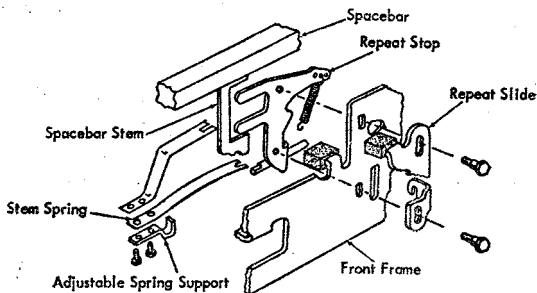

Figure 10. Repeat Slide Assembly
The repeat slide controls the downward travel of the spacebar during single or repeat actions. Two adjustable-shouldered-mounting screws pass through elongated holes in the repeat slide and front frame, and screw into the repeat stop (Figure 10). The repeat slide is spring loaded against the upper arm of the repeat stop. During repeat operation the spacebar stem moves the repeat slide down against this spring tension until the repeat slide contacts the lower arm of the repeat stop.
4. **REPEAT STOP.** Adjust by vertically positioning the mounting screws, so the travel of the spacebar between the non-repeat tripping point and the contact of the repeat slide is .015" to .025" (Figure 10).